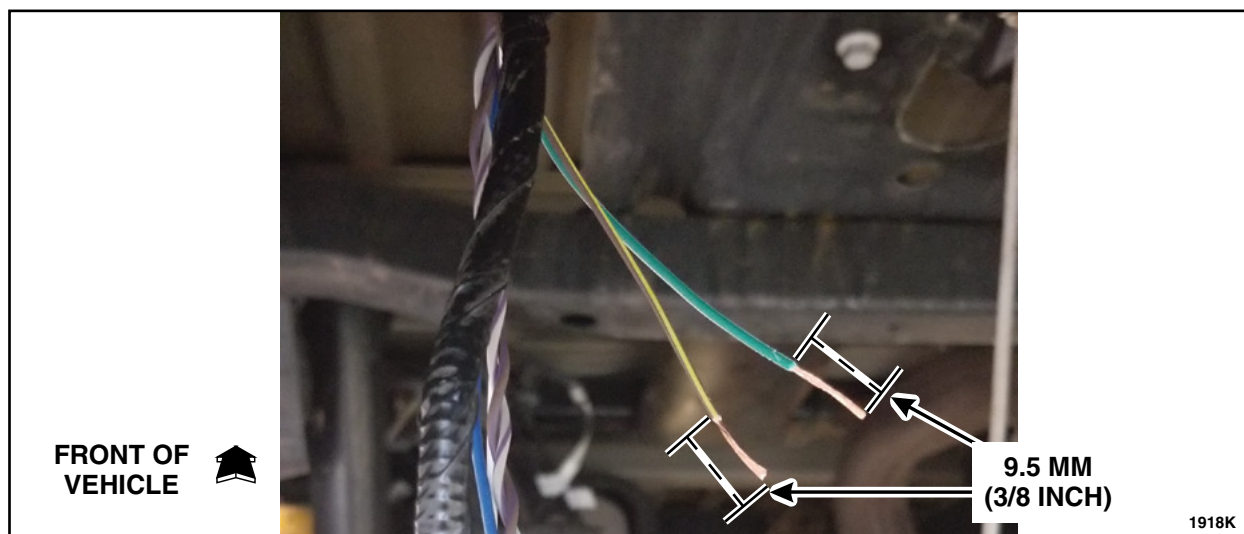

FIGURE 8
11. Strip 9.5 mm (3/8 in) of the GN-WH and BN-YE wire insulation on the female connector harness side. See Figure 8.